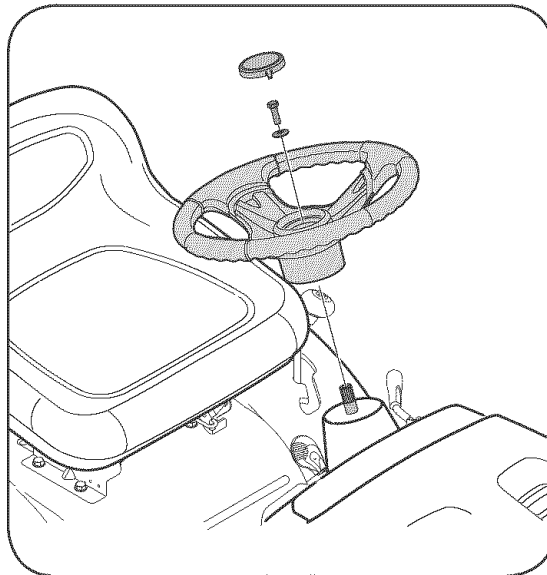

Figure 3
**NOTE:** There are two different styles of steering wheel cap. See Figure 3. **Styles vary by model.**
2. Place the washer (with the cupped side down) over the steering shaft and secure with the hex bolt. See Figure 3.